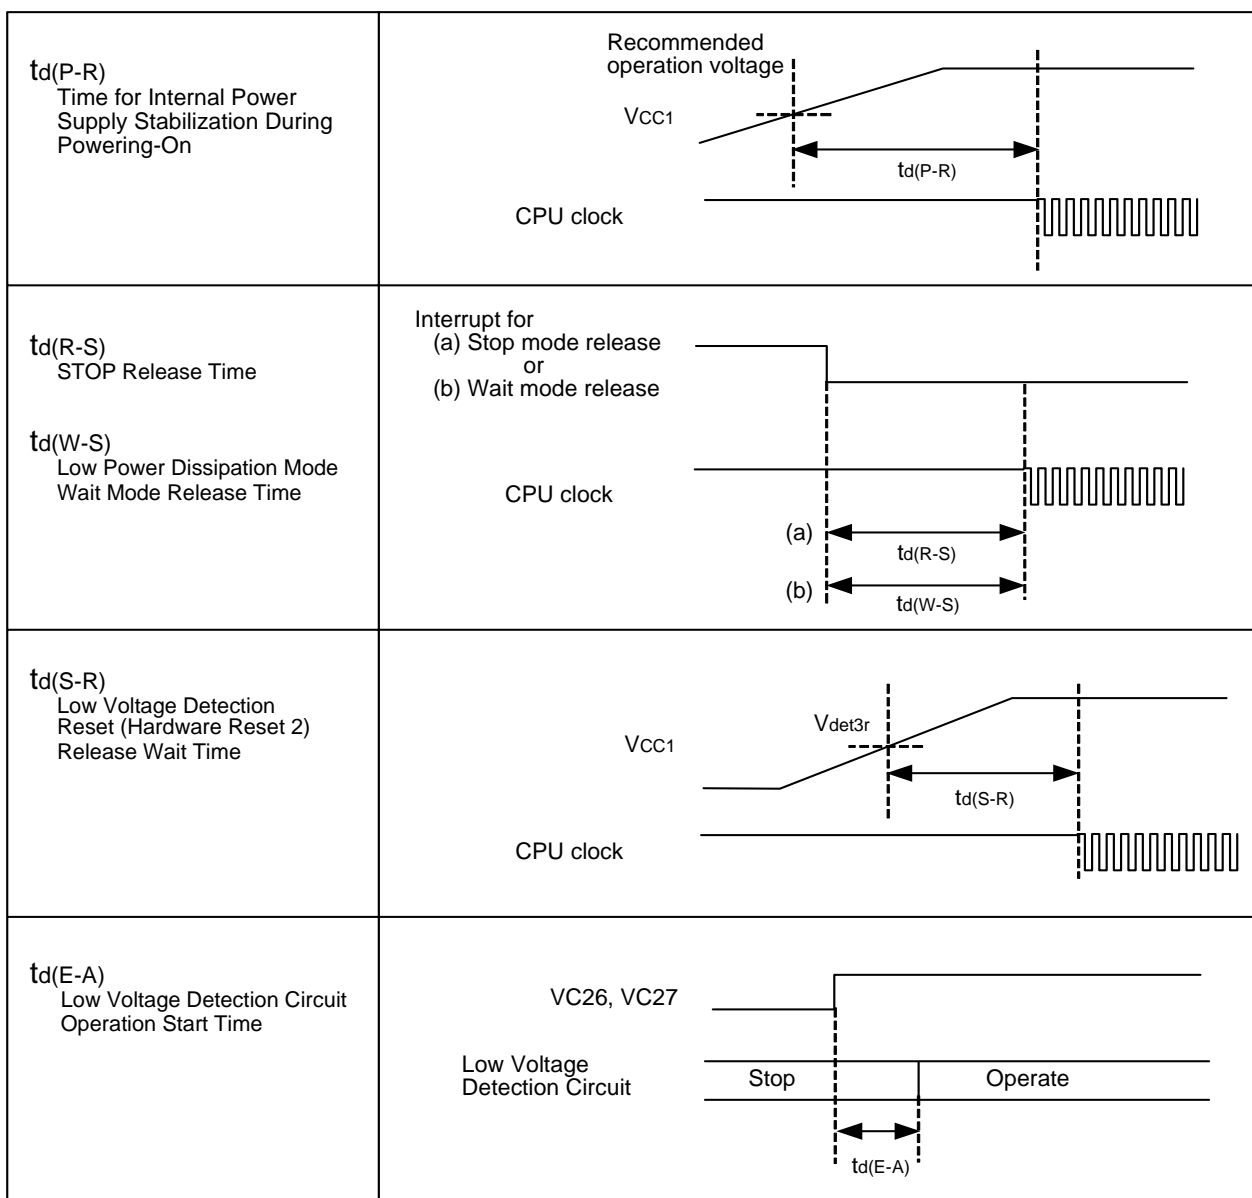

Figure 5.1 Power Supply Circuit Timing Diagram
33 34,74 36 38,55 41 41-43, 58-60 44 47-48 49-50 52 53 58 61 64-65 66-67 69 70-85	Table 5.4 A-D Conversion Characteristics is revised. Table 5.5 D-A Conversion Characteristics revised. Table 5.6 to 5.7 and table 5.54 to 5.55 are revised. Table 5.11 is revised. Table 5.14 and 5.33 HLDA output deley time is deleted. Figure 5.1 is partly revised. Table 5.27 to 5.29 and table 5.46 to 48 HLDA output deley time is added. Figure 5.2 Timing Diagram (1) XIN input is added. Figure 5.5 to 5.6 Read timing DB → DBi Figure 5.7 to 5.8 Write timing DB → DBi Figure 5.10 DB → DBi Table 5.30 is revised. Figure 5.11 is partly revised. Figure 5.12 Timing Diagram (1) XIN input is added. Figure 5.15 to 5.16 Read timing DB → DBi Figure 5.17 to 5.18 Write timing DB → DBi Figure 5.20 DB → DBi Electrical Characteristics (M16C/62PT) is added.